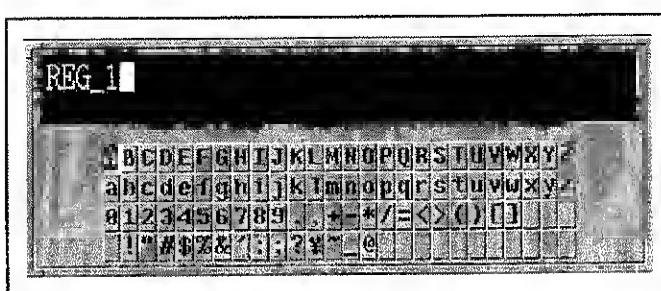

Figure 7-19 Label Window Display
- ① Press the [SAVE] to call the save menu. (Refer to section A.4.)
- ② Press the {SAVE REGISTER} to call the save register menu.
- ③ Press the {RENAME REG} to display the label window and calls the name editing menu.
- ④ Name editing menu
{EDIT NAME} : Displays the label window (Figure 7-19) and calls the character editing menu. (See step ⑤.)
- ② Press the {STORE FILE} to call the store file menu.
- ③ Press the {NAME↑}, {NAME↓} to select a desired file name.
- ④ Press the {EDIT NAME} to display the label window (Figure 7-19) and calls the character editing menu.
⑤ Character menu